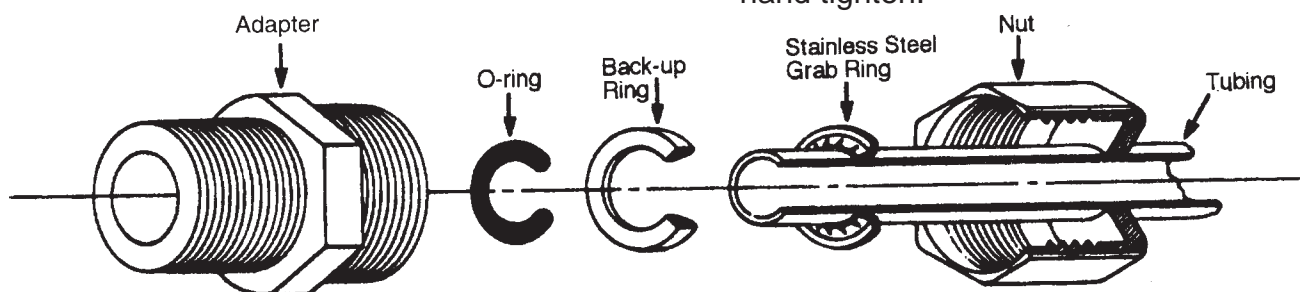

Figure 2 Typical Polypropylene Tubing Adapter Installation
1. Completely disassemble the fitting. Refer to Figure 2 to familiarize yourself with the names of the component parts.
3. Place the grab ring and backup ring in the hex nut in the order and orientation shown in Figure 2. Thread the nut into the adapter. **DO NOT** use the o-ring at this time.